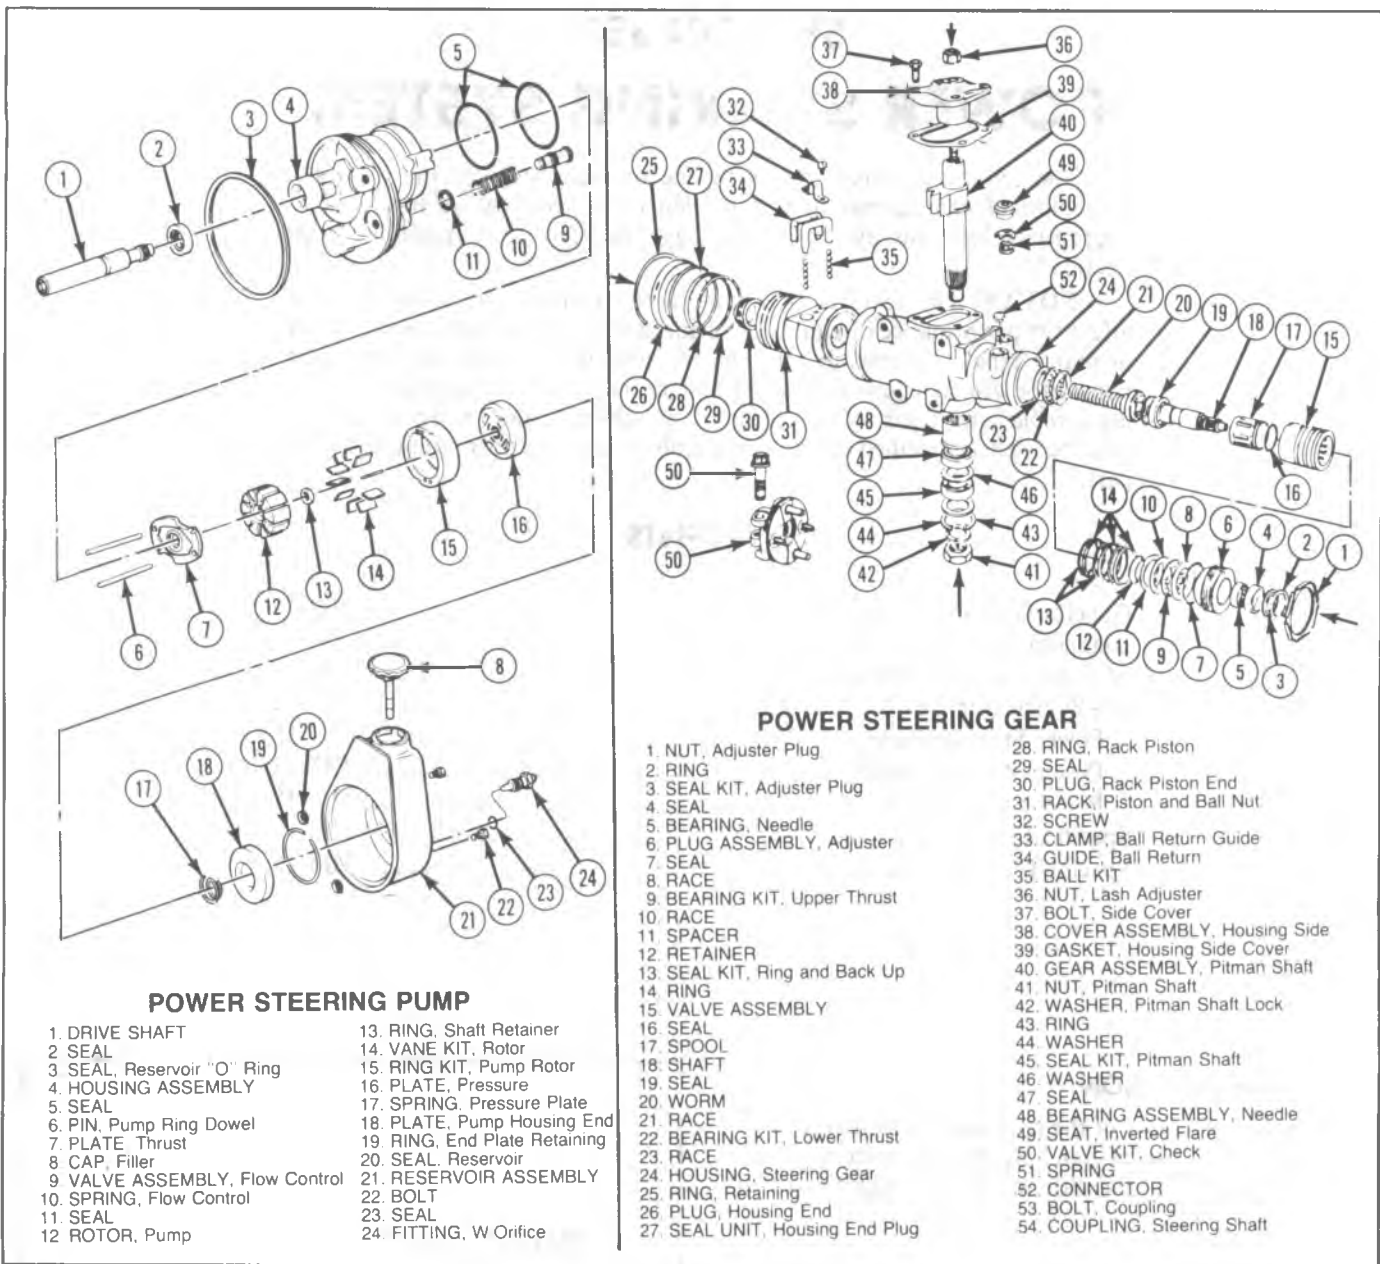

Fig. 3B3-2 -- Pump and Gear Cross-Section
**DIAGNOSIS (FIGS. 3B3-3 THROUGH 3B3-8)**